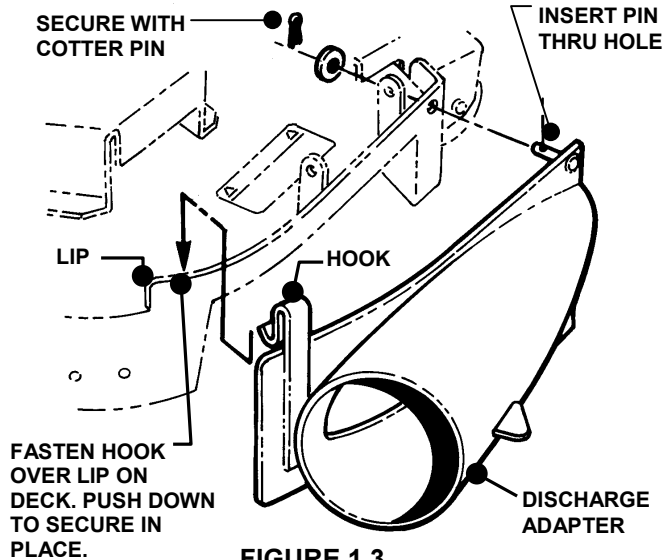

FIGURE 1.3
D. Install the discharge adapter. See Figure 1.3.